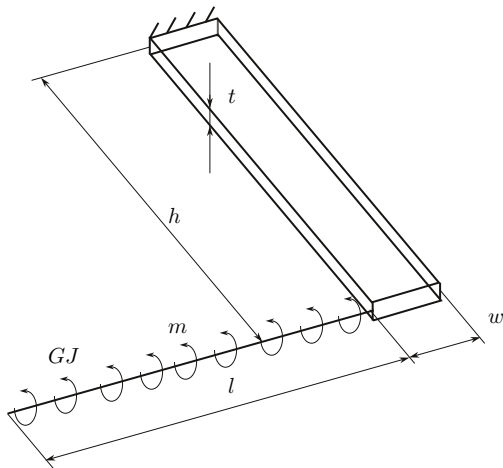

Figure 2: Cantilever bending
- The  $h \times w \times t$  solid of Figure 2 is joined to a beam with torsional stiffness  $GJ$ . The beam is loaded by a moment per unit of length  $m$ . Compute the vertical displacement and the rotation of the beam free extremity. Refer to Table 2 for the problem data, and assume reasonable values for any missing constant. Choose and justify a suitable structural model for the solid.